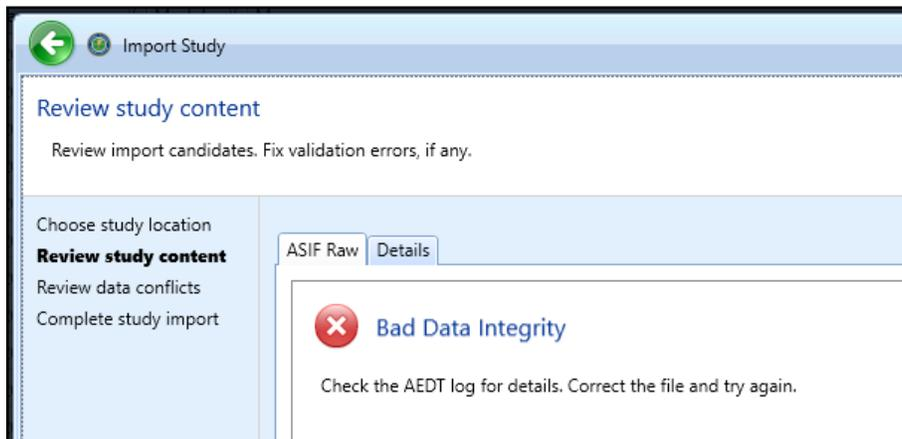

Figure 44. Review study content, Bad data integrity error
- If the “Bad Data Integrity” message appears, click *Cancel* (Figure 44). This message indicates errors in validating the XML file based on the EDMS study data. **Please refer to Section 4.4.1 for suggestions on how to resolve these data errors.**